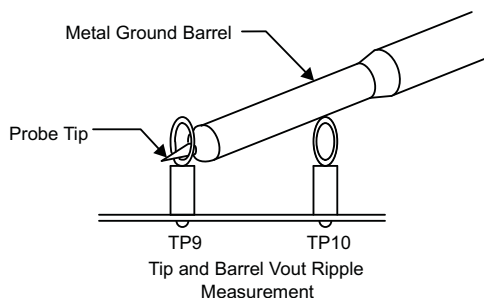
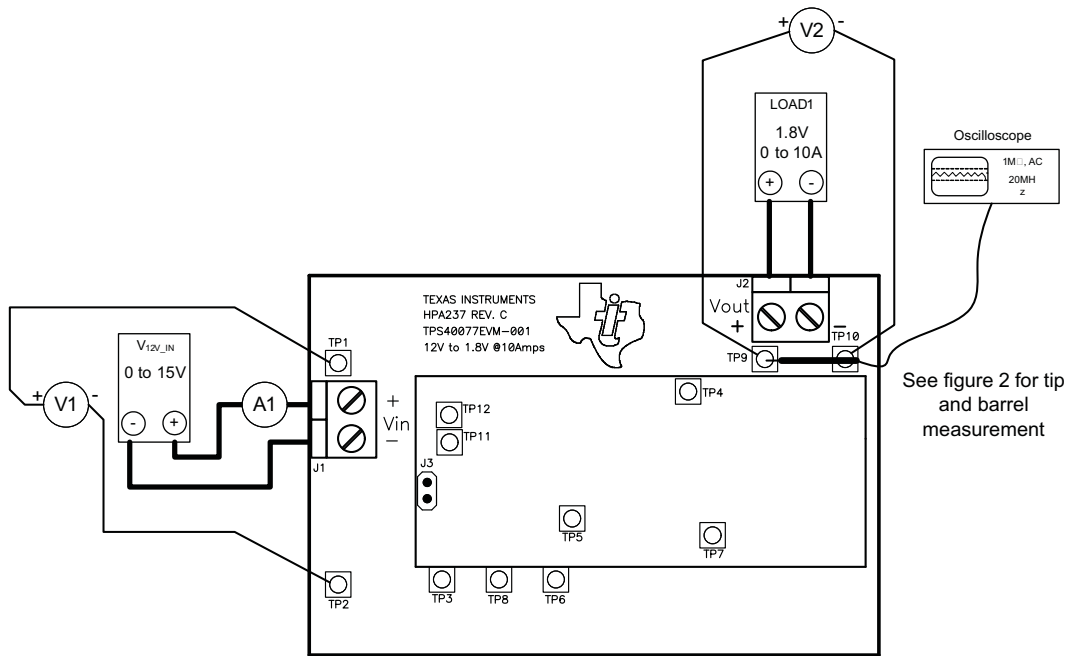

Figure 2. Output Ripple Measurement – Tip and Barrel Using TP9 and TP10
Figure 3. TPS40077EVM-001 Recommended Test Set-Up
The input voltage source (V_{12V_IN}) should be a 0–16 V variable-DC source capable of 5 A DC. Connect V_{12V_IN} to J1 as shown in Figure 3.
A digital or analog oscilloscope can be used to measure the ripple voltage on V_{OUT} . The oscilloscope should be set for 1-M Ω impedance, 20-MHz bandwidth, AC coupling, 1- μ s/division horizontal resolution, 20-mV/division vertical resolution for measuring output ripple. TP9 and TP10 can be used to measure the output ripple voltage by placing the oscilloscope probe tip through TP9 and holding the ground barrel to TP10 as shown in Figure 2. For a hands free approach, the loop in TP10 can be cut and opened to cradle the probe barrel. Using a leaded ground connection should be avoided because it induces additional noise due to its large ground-loop area.
Shown in Figure 3 is the basic test set up recommended to evaluate the TPS40077EVM-001. Note that although the return for J1 and J2 are the same, the connections should remain separate as shown in Figure 2.
2. Prior to connecting the DC input source, V_{12V_IN} , it is advisable to limit the source current from V_{12V_IN} to 5.0 A maximum. Make sure V_{12V_IN} is initially set to 0 V and connected as shown in Figure 3.
3. Connect an Ammeter A1 as shown in Figure 3.
4. Connect Voltmeter V1 to TP1 and TP2 as shown in Figure 3.
5. Connect LOAD1 to J2 as shown in Figure 3. Set LOAD1 to constant current mode to sink 0 A DC before V_{12V_IN} is applied.
6. Connect Voltmeter V2 to Output J2 as shown in Figure 3.
7. Connect Oscilloscope probe to TP9 and TP10 as shown in Figure 2.